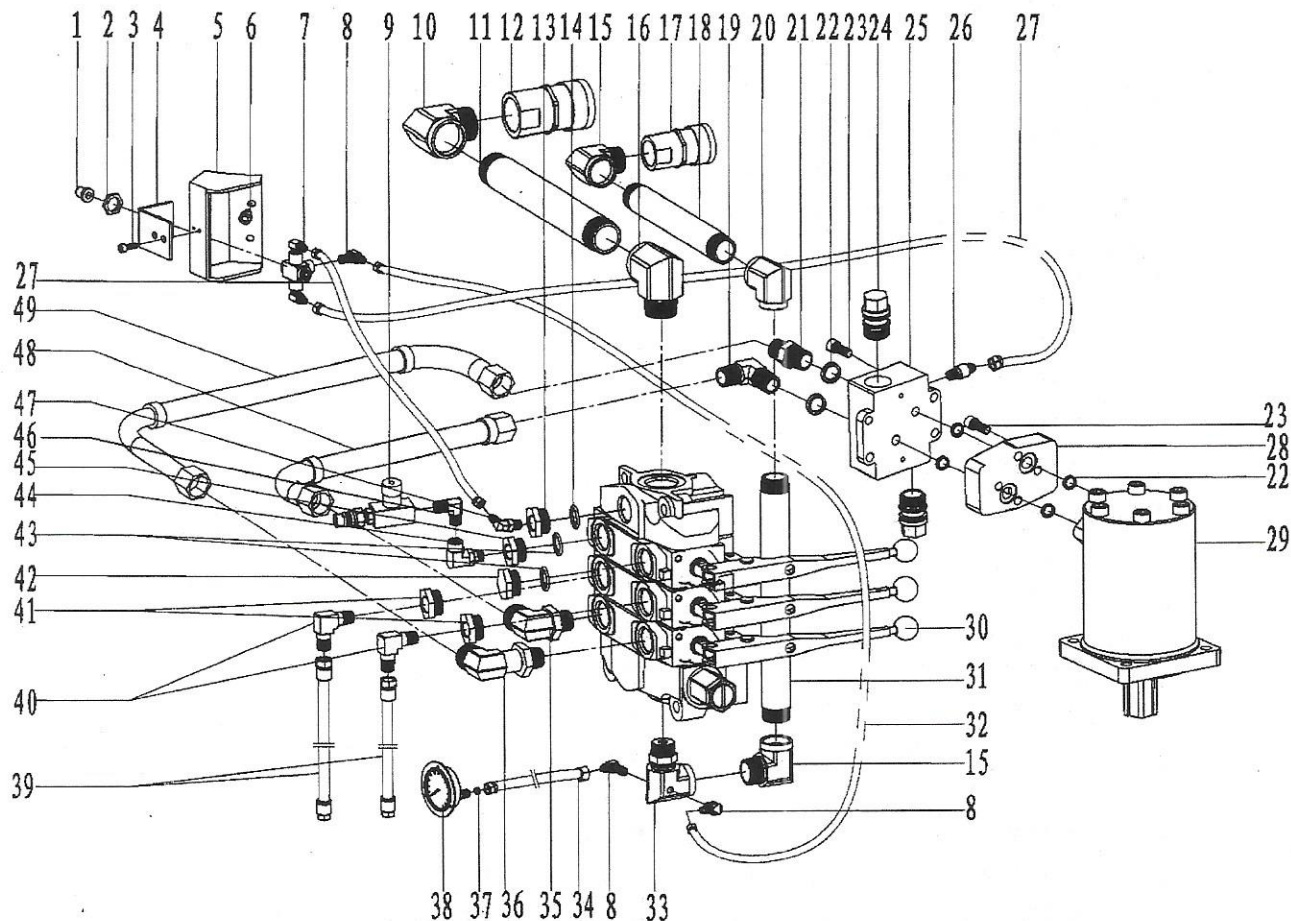

Fig31
28. Hydraulic control safety protection device (Fig31, Table28)
- 8.7 Hydraulic control safety protection device (Fig31, Table28)